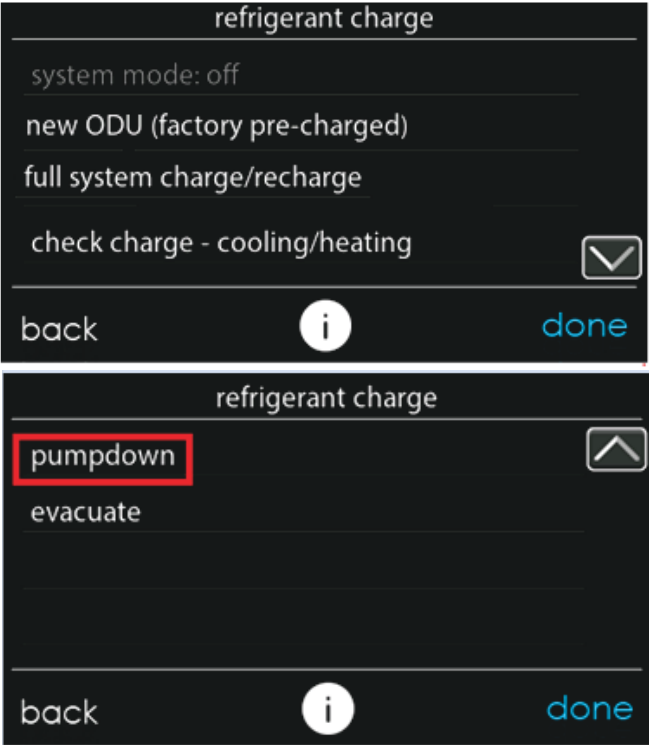

Fig. 23 – Pump Down and Evacuation Selection
- 2. In the “installation and service” menu of the Infinity® System Control (see Fig. 13), go to “refrigerant charging” and then “pump down” (see Fig. 14 and Fig. 23).